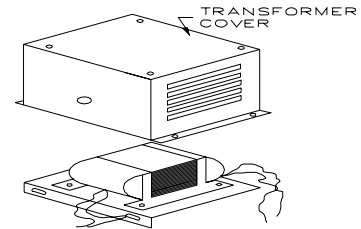

Fig. 4 - Transformer Cover.
5. **480V "A" model:** The transformer is for use on applications were 480V heaters are being wired into 208/240 volt single phase AHU. The single point transformer must be externally mounted and secured with screws onto the air handler unit. Use the louvered transformer cover (provided) for protection of this part (see fig. 4). For wiring purposes the wiring on the transformer is labeled and color coded (refer to schematic).
6. 480V "non transformer" model: Dual source circuit is required to power the electric heater and unit separately. Remove (2) "480V" labeled wires from terminal block. Tighten remaining wire connections on the terminal block